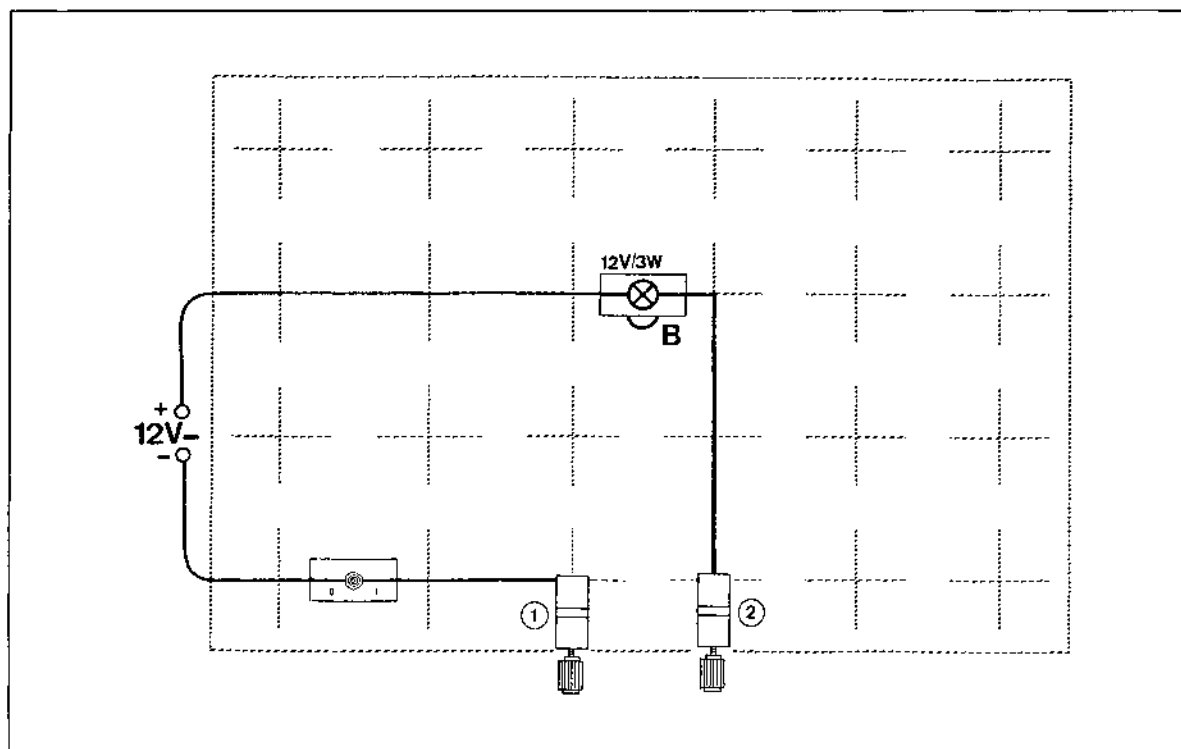

Fig. 1 Experiment setup:
1. Build the circuit shown in fig. 1.
3. Test the substances listed in the table for conductivity, using the circuit shown in fig. 1.
4. Draw the circuit diagram of the test circuit shown in fig. 1.